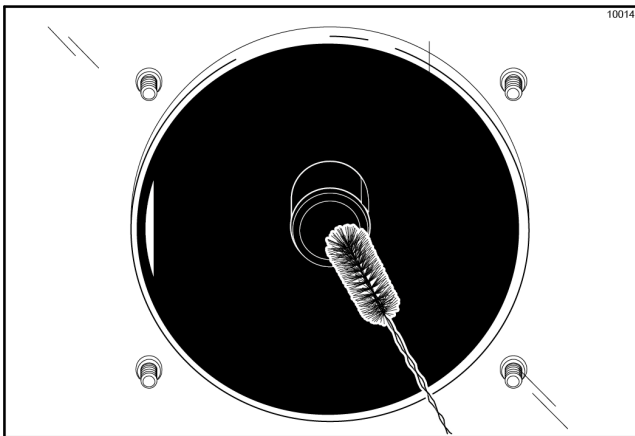

Figure 6-64
4. Return to the freezer with a small amount of cleaning solution. Using the black brush, clean the rear shell bearing at the back of the freezing cylinder. (See Figure 6-64.)